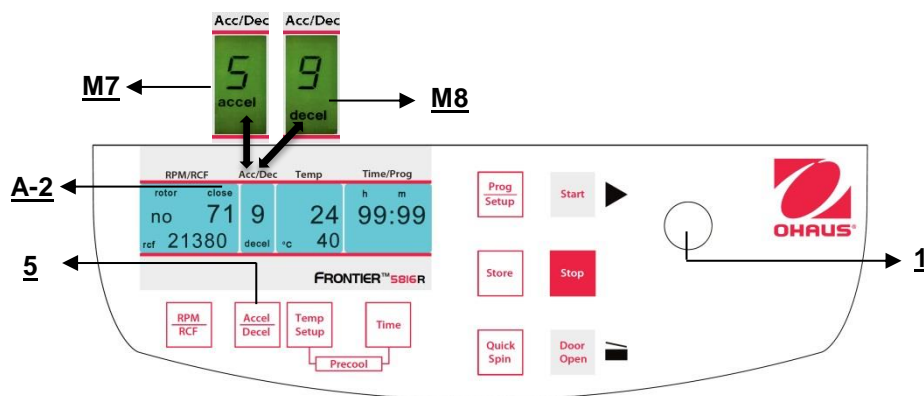

Figure. 18
This function is activated through the key "Accel/Decel" (5) (refer to figure 18).